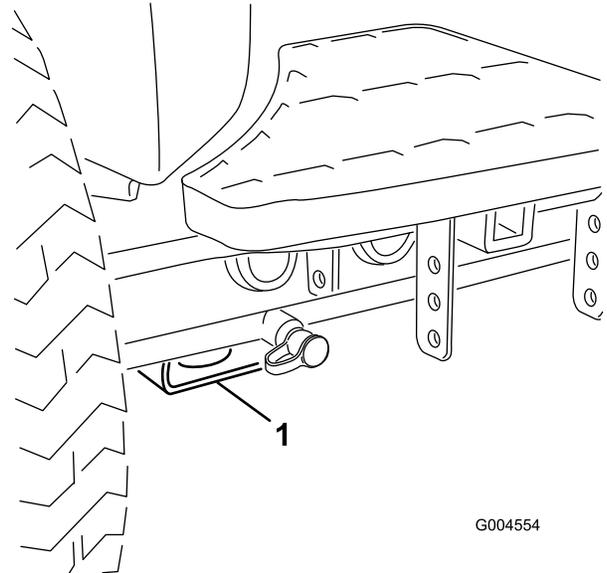

Figure 42
- Front—rectangular pad, under the axle tube, inside each front tire (Figure 42).